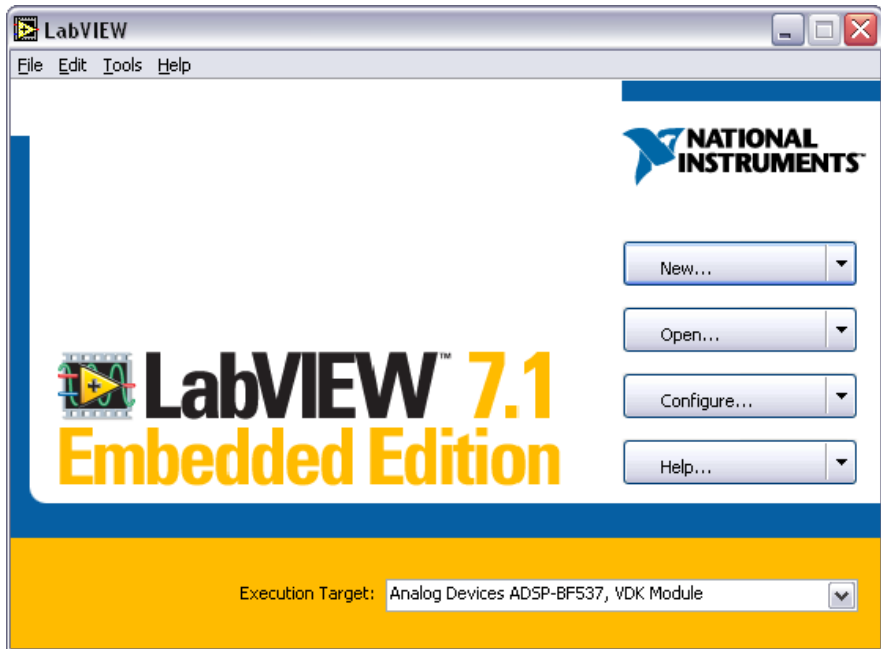

Figure 2. Selecting the Execution Target
2. In the **LabVIEW** dialog box, shown in Figure 2, select **Analog Devices ADSP-BF537, VDK Module** from the **Execution Target** pull-down menu.